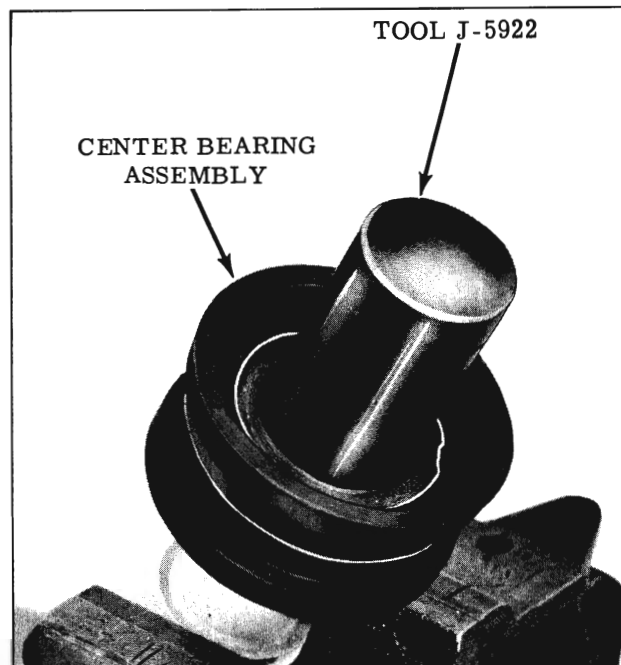

Fig. 6-148 Installing Center Bearing
3. Drive center bearing assembly onto shaft until seated with Tool J-5922. (Fig. 6-148)